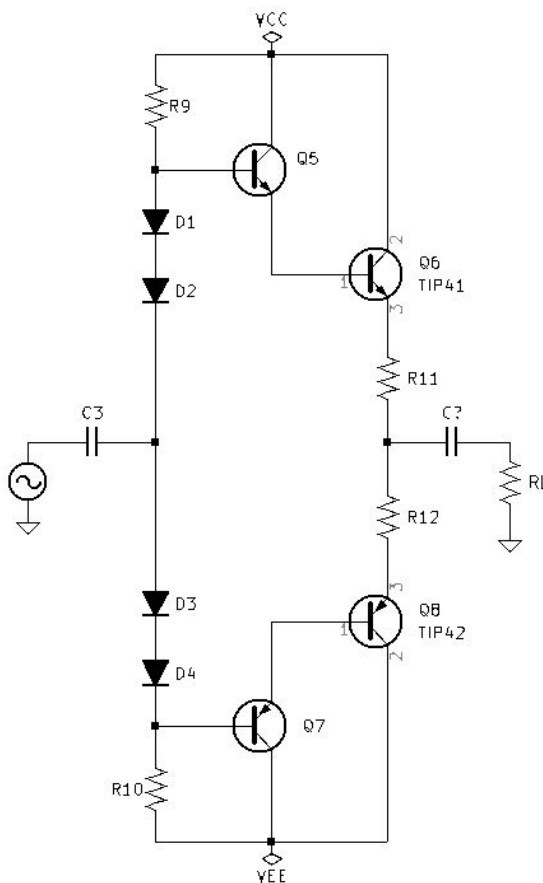

Figure 6.1: Push Pull Amplifier.
1. See Figure 6.1 *Push Pull Amplifier* on page 56.